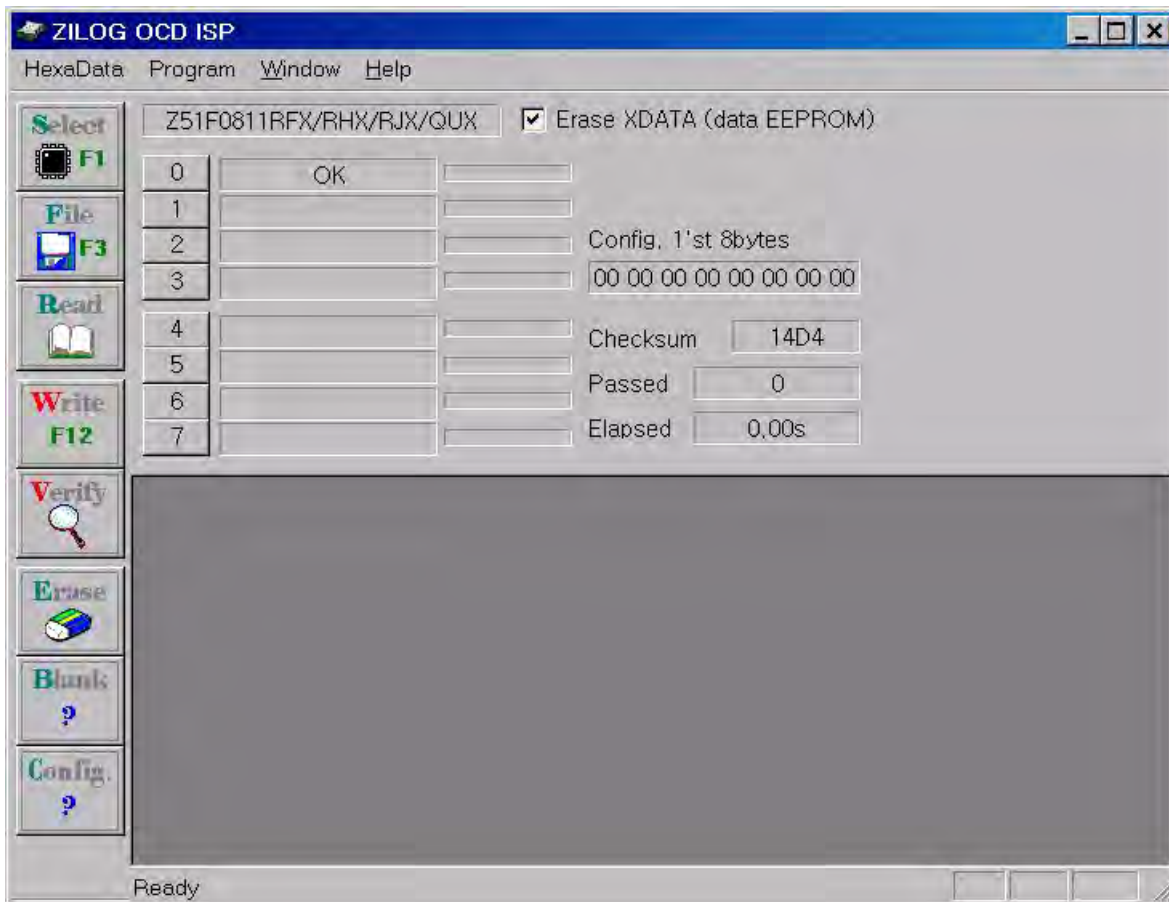

Figure 76. OCD ISP Dialog
3. The OCD\_ISP dialog box appears, as shown in Figure 76. After a hexadecimal file has been loaded, this dialog displays the name of the target device and a data check-sum value, as highlighted in the figure.